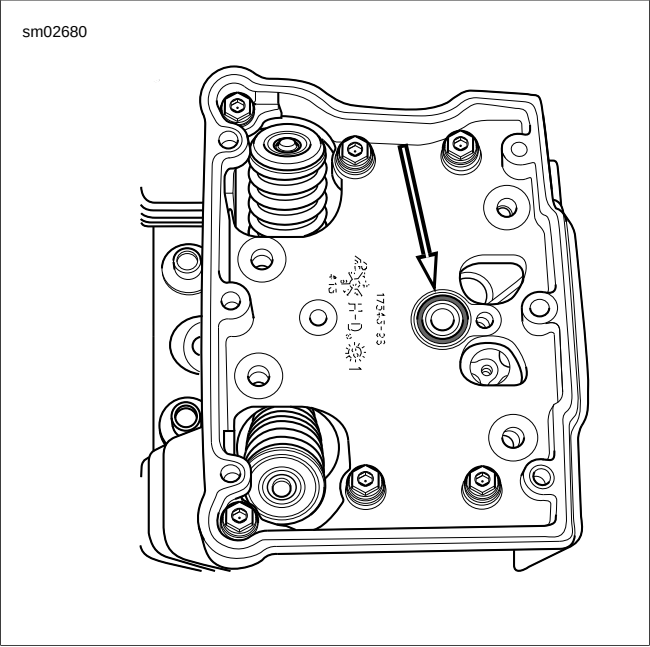

Figure 3-22. Breather Baffle Hole O-Ring
8. See Figure 3-22. Remove and discard breather O-ring from rocker housing.